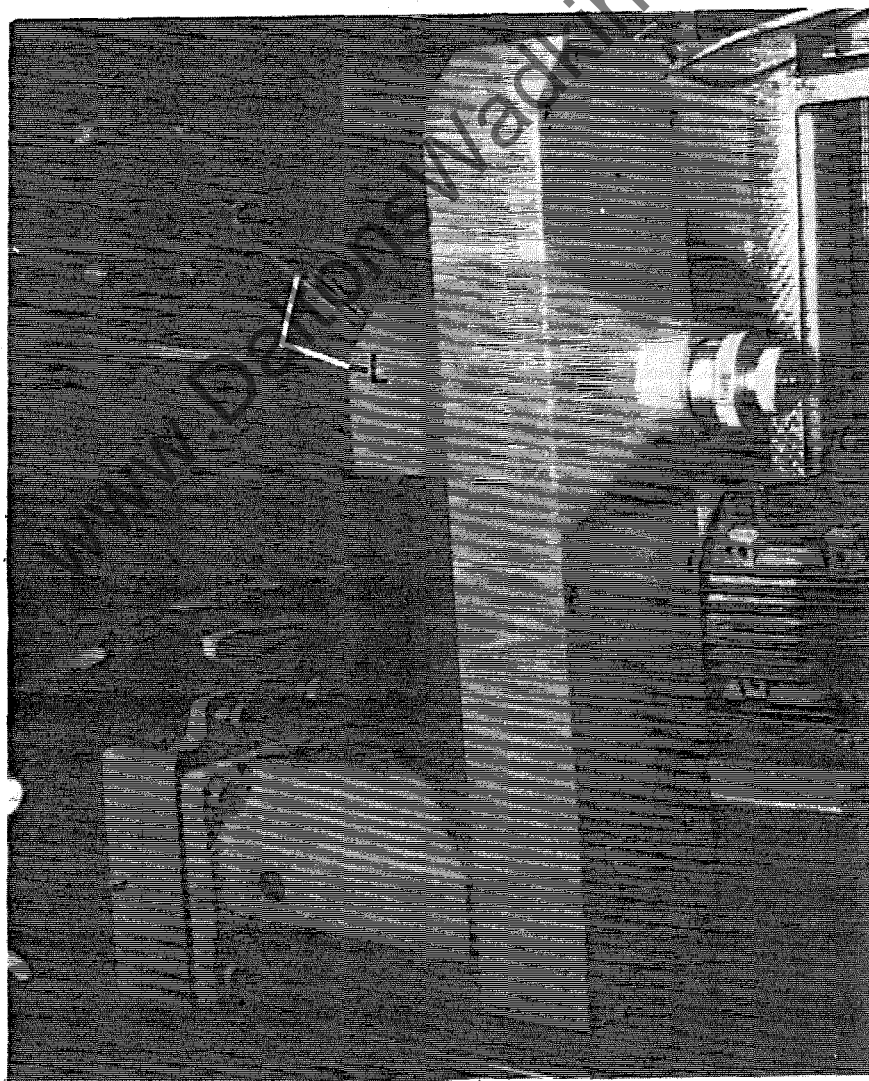

FIG.15
- 1 When fitting each chain beam the spline pressure drive shaft "L" FIG.15 must locate together to enable a sliding fit.